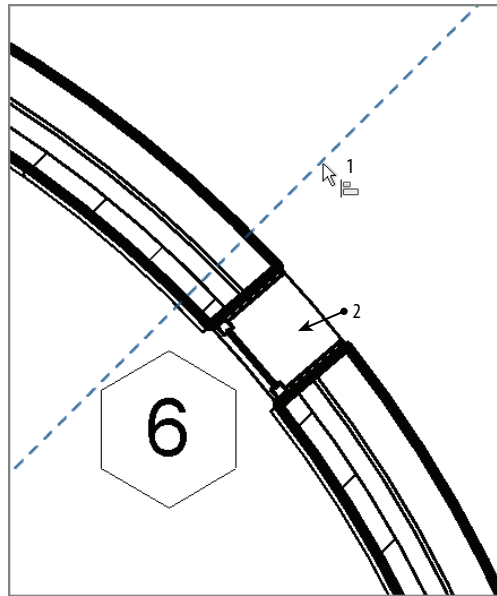

FIGURE 4.30: Choosing the items for alignment. Remember that you must first choose the item you want to align to.
6. The Align tool needs you to select two items. First select the item you want to *align to*; pick the reference plane as shown in Figure 4.30.